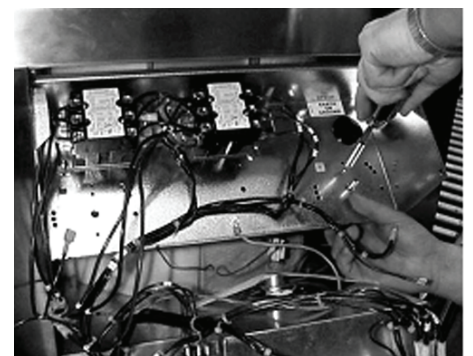

Figure 17
- F. Place high limit thermostat locking plate (item #11, page 5) onto shaft of thermostat. Rotate shaft until hole in plate lines up with grommet in relay panel. Insert and tighten screw to secure in place (see figure 17).